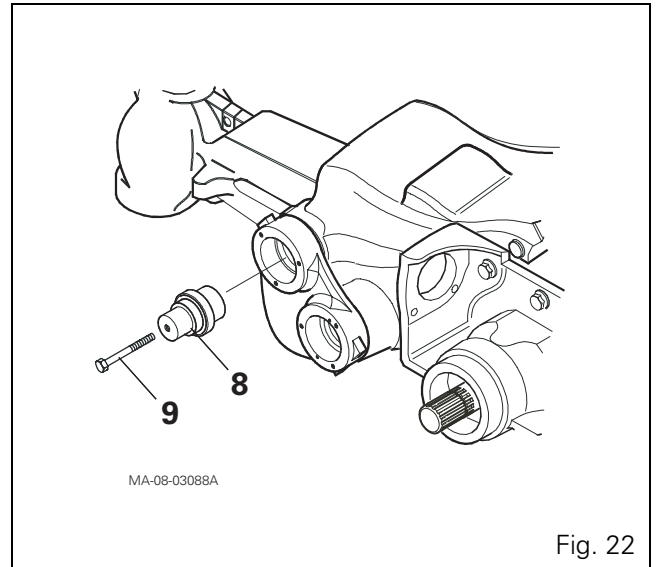

Fig. 22
Fit screws (9) for pins (8), coated with Loctite 542, and tighten them to a torque of 190 Nm (Fig. 22).